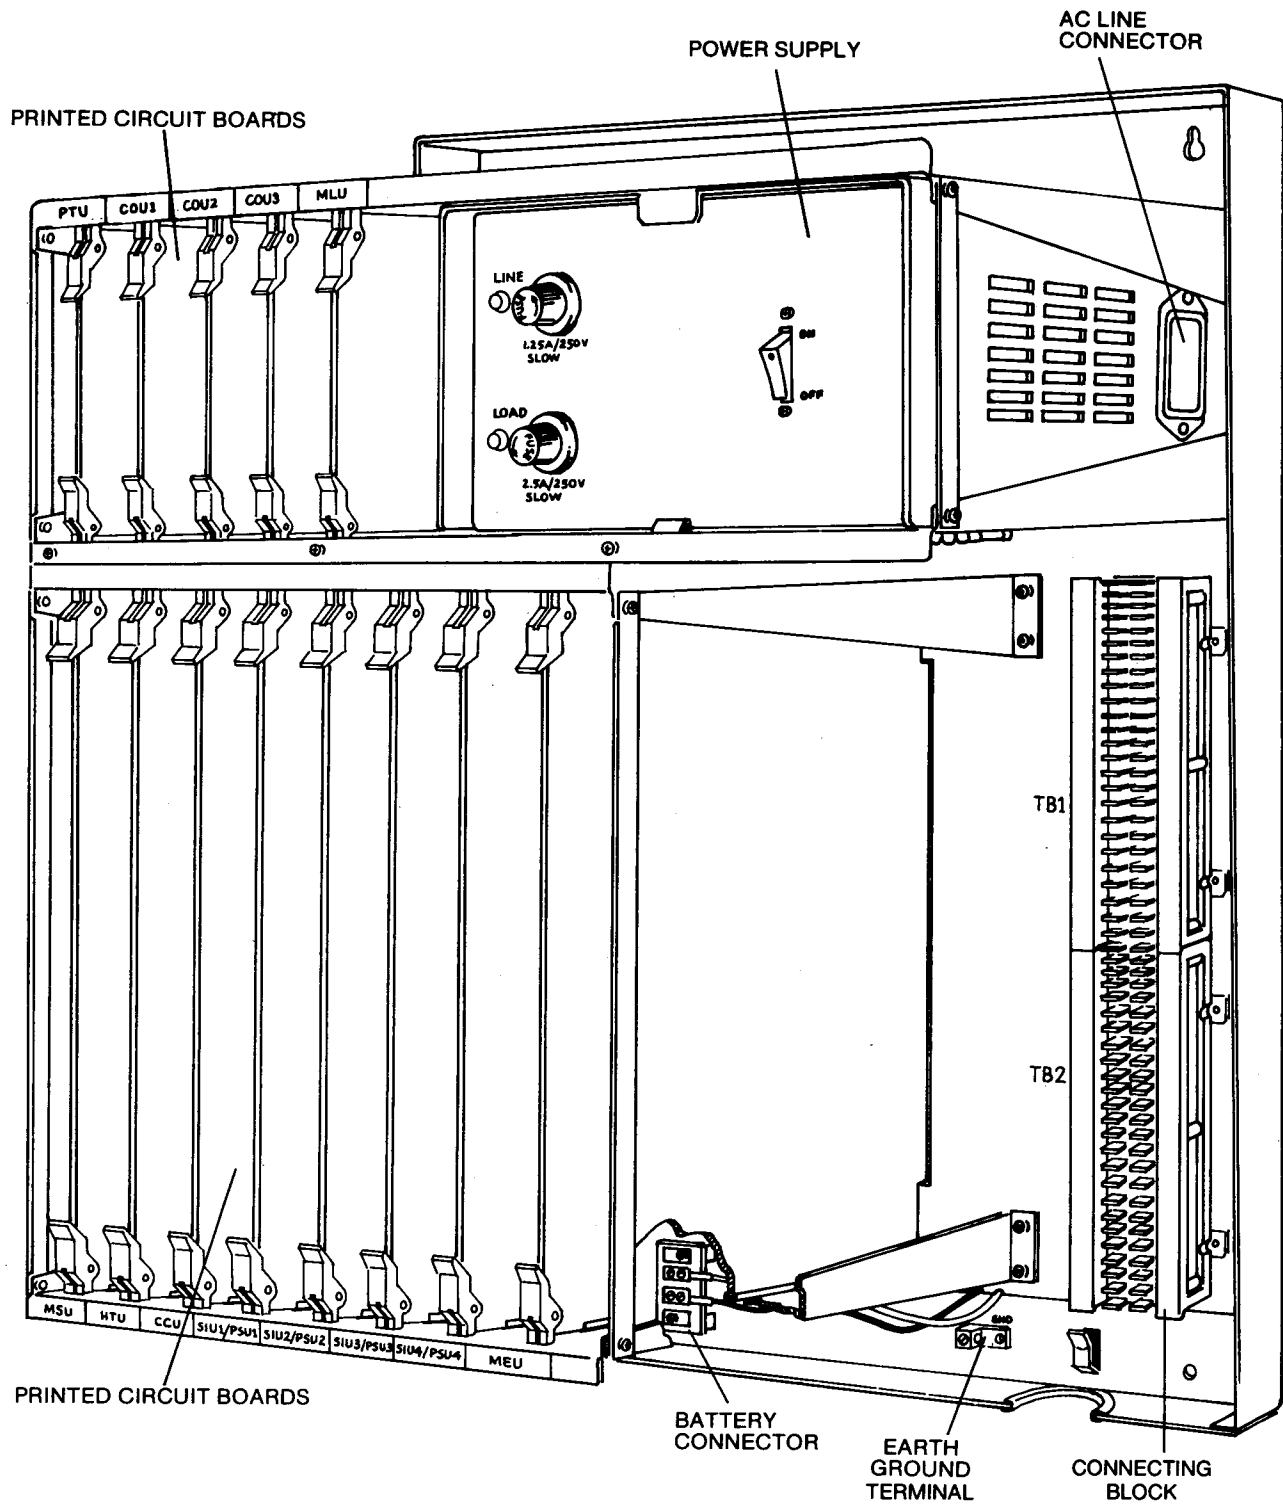

FIGURE 1. KSU LAYOUT, FULLY PROTECTED SYSTEM
The wire should be kept as short as possible, and can be connected to the ground lug provided at the bottom right of the KSU (Refer to Figure 1 - KSU layout.)
- C) Install the key system ground using an insulated 14 AWG or larger copper wire. Attach one end to the grounding lug inside the KSU cabinet and fasten the other end to a good earth ground (Refer to Figure 1 - KSU layout).
- D) Install the NC-616 Power Module into the upper right hand corner of the KSU. (Refer to Figure 1 - KSU layout). Make sure that the power switch is in the "OFF" position. Align the module with the tray on the KSU and insure that the connector on the module is completely inserted into the KSU.